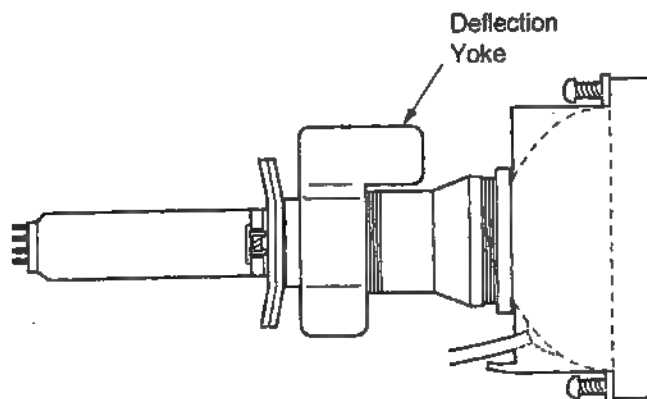

Fig 5-7
10. Remove the Deflection Yoke from the neck of the CRT. [Fig. 5-7]
2. Install the Deflection Yoke on the CRT neck. [Fig. 5-7]